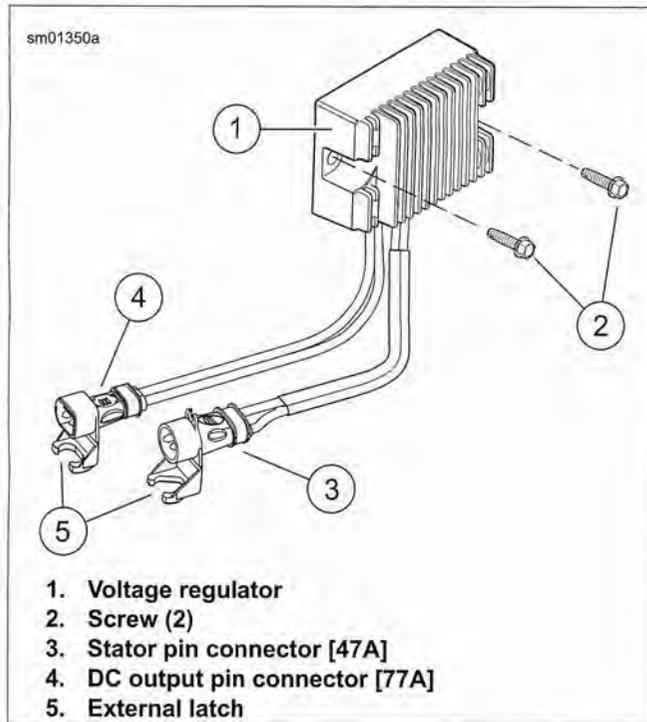

Figure 6-1. Voltage Regulator
See Figure 6-1. The voltage regulator is located between the frame downtubes at the front of the motorcycle. When installing connectors (3, 4) after service, engage the latches (5) to prevent connector separation.